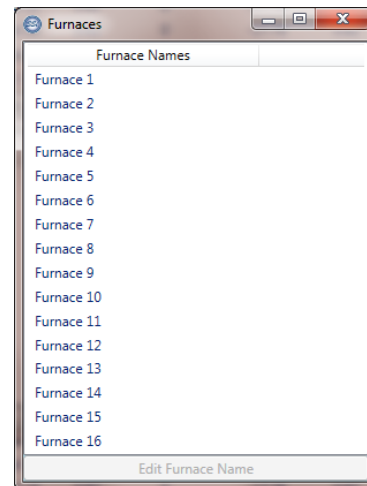

Figure 67 - View Furnaces option
**View Furnaces** (Figure 67). Selecting this option will display the list of Furnace Names that can be applied to a test result when the test result is being saved on the CAT-100. The **Edit Furnace Names** option allows you to change a selected Furnace Name. There is a maximum of 16 furnace names, each with a maximum of 32 characters in the name.